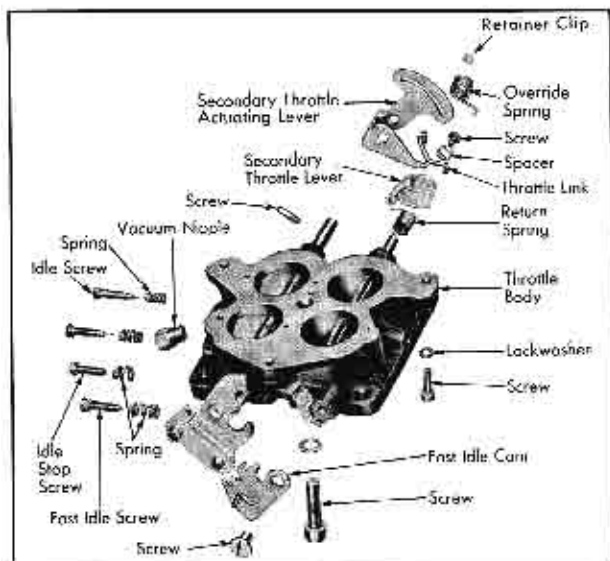

Fig. 12-46 Throttle Body Disassembled
2. Wind up return spring 1 complete turn in the clockwise direction, and place secondary throttle lever on shaft over end of spring. Bent portion of lever should be placed above shaft as shown in Figs. 12-46 and 12-47.
5. Start secondary throttle actuating lever onto primary throttle shaft, with curved slot portion outward and rearward. With inner side of lever on shaft, place override spring on shaft, long end inward, and slide lever fully onto shaft with washer end of throttle link inserted through curved slot. Refer to Figs. 12-46 and 12-47 for assembly details.